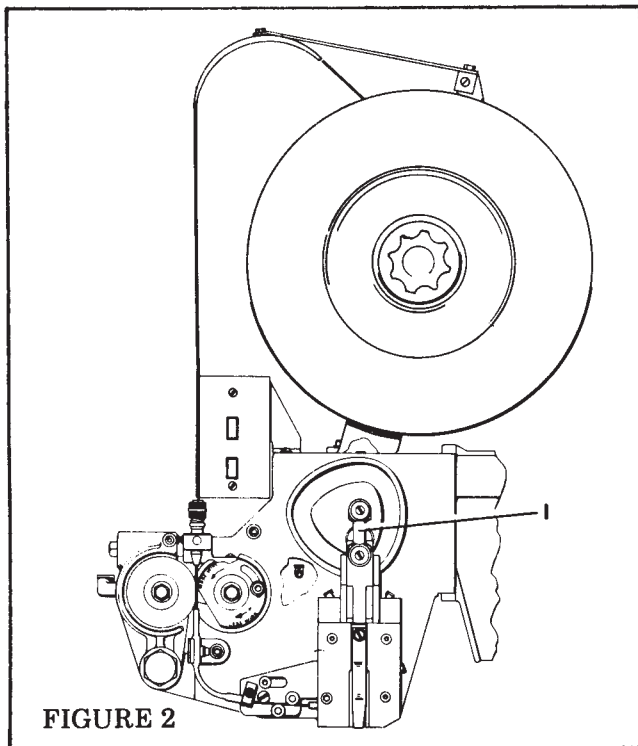

FIGURE 2
4. Turn stitcher drive wheel by hand until driver link (Index 1, Figure 2) is in vertical position.